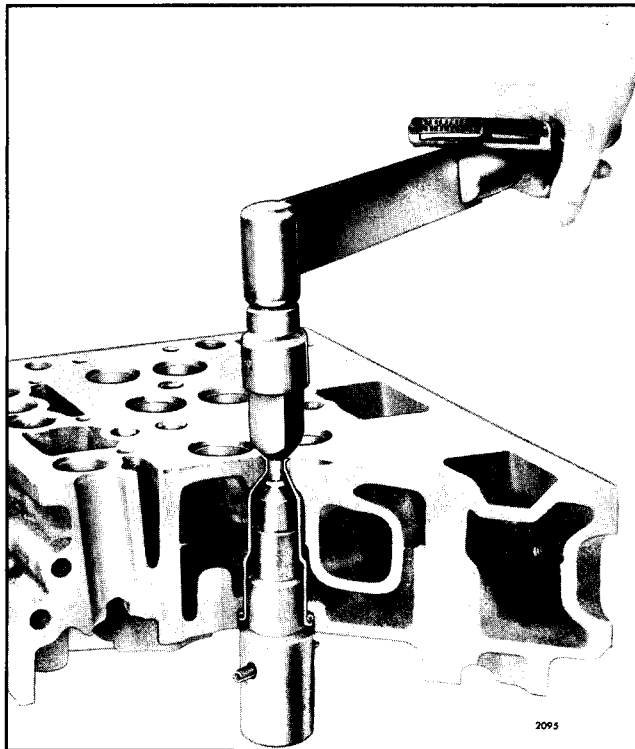

Fig. 3 - Upsetting Injector Tube using Tools J 5286-4A and J 5286-6
- a. Turn the cylinder head bottom side up, remove the pilot J 5286-5 and thread the upsetting die J 5286-6 into the tapped end of the installer J 5286-4A (Fig. 3).